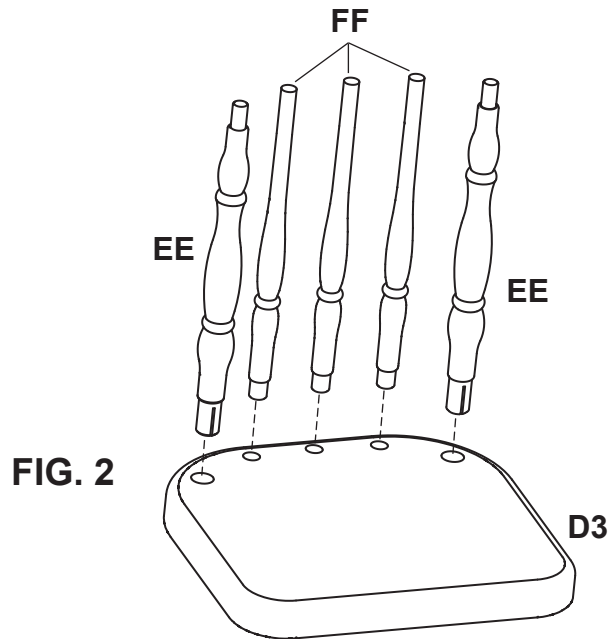

FIG. 2
Put the three Back spindles (FF) into the holes between the back posts. Be sure the shoulders of the back posts and back spindles are seated against the top of the seat. See FIGURE 2.